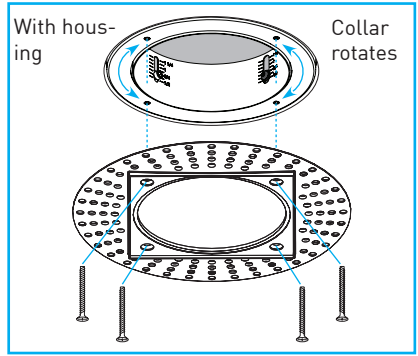

Fig.48
**With Housing:** For installations utilizing a downlight housing, align 4 countersunk screw holes in appliqué with corresponding holes of rotatable housing collar in ceiling cut-out. Use 4 provided screws through proper holes in appliqué and tighten until appliqué is fully seated against ceiling surface **"Fig.48"**, ensuring desired alignment if square appliqué is used.